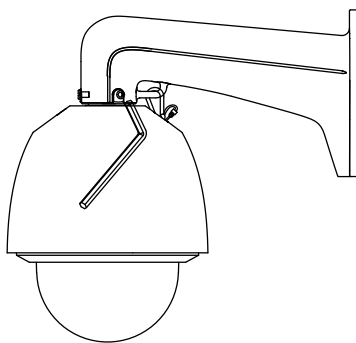

Figure 1-9 Secure the Speed Dome
- 6) Secure the two lock screws with the Allen wrench as shown in Figure 1-9.